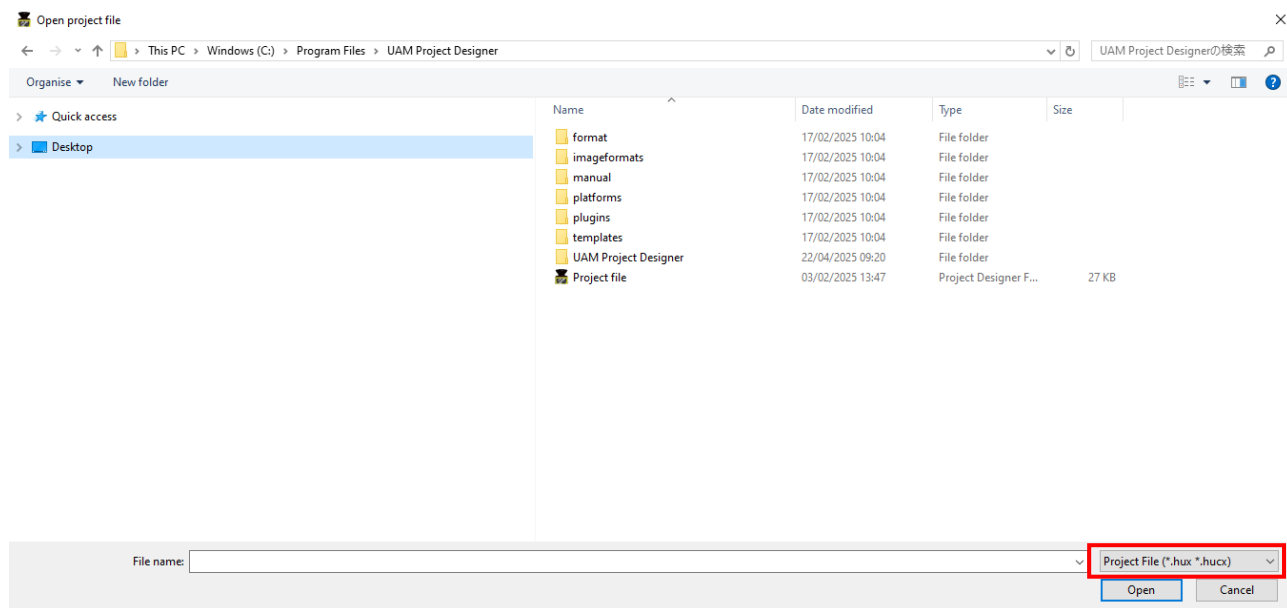

Figure 7-46 Project File Selection
- Dialog box will appear (Figure 7-46). Select the project file [*****.hux/hucx] or SD/FoE file [*****.uam/foe] to open.